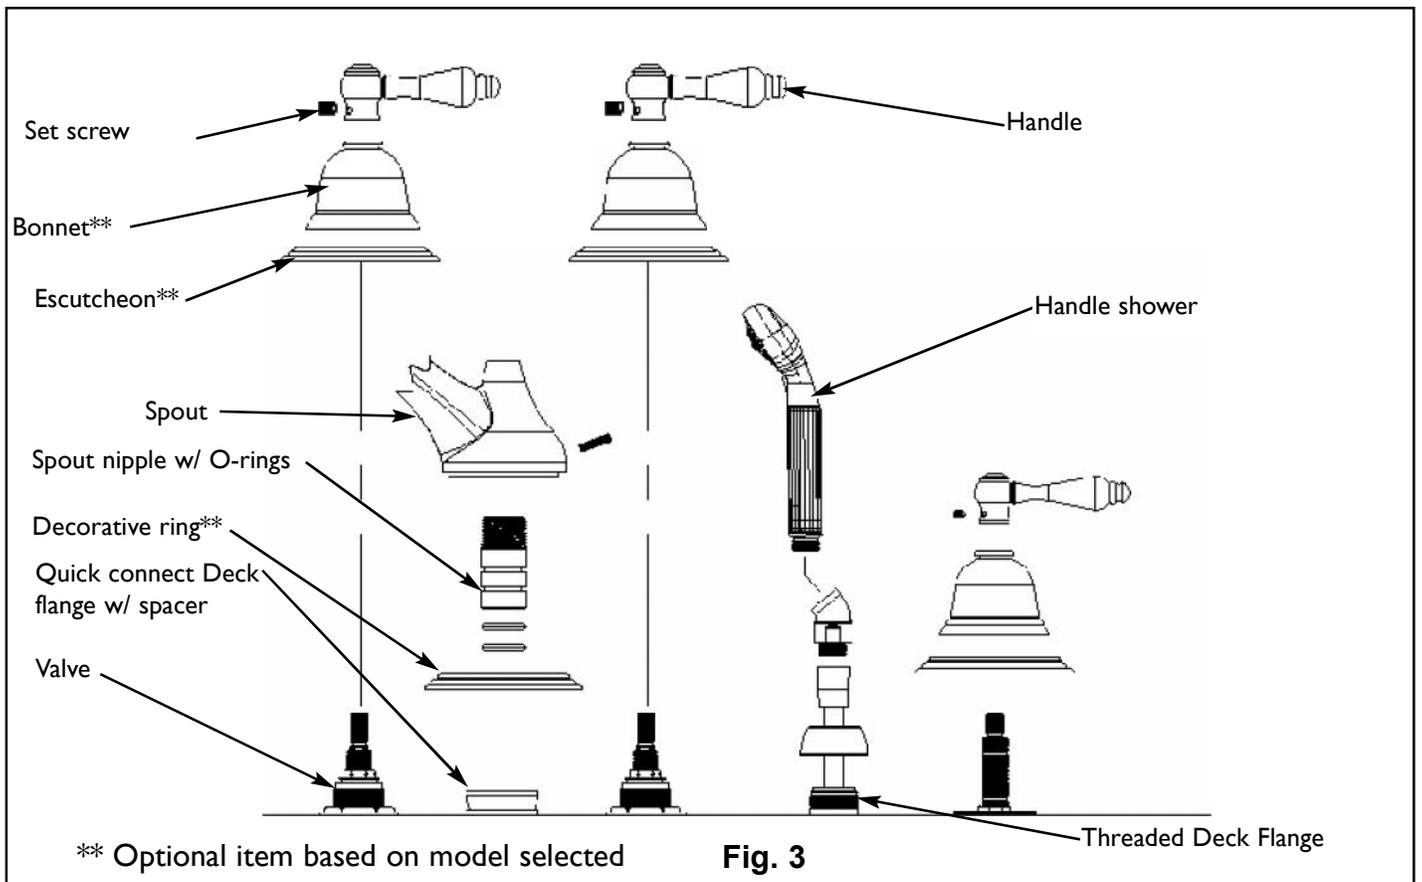

Fig. 3
2. Apply plumbers tape to spout nipple and install into base of spout. Slide spout nipple into quick connect deck flange (re-grease if necessary). Make sure spout is flush with deck and secure into place with setscrew. See Figure 3